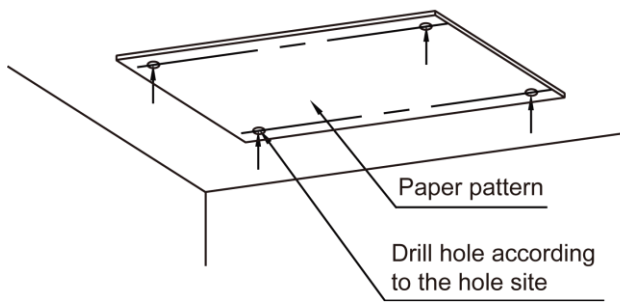
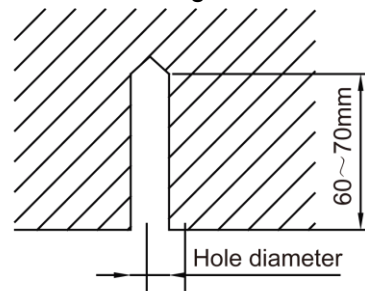

Fig 4.1.2
Fig 4.1.3
1) Stick the paper pattern on the installation position; drill 4 holes according to the hole site on the cardboard as shown in fig 4.1.2; diameter of drilling hole is according to the diameter of expansion bolt and the depth is 60-70mm, as shown in fig 4.1.3.